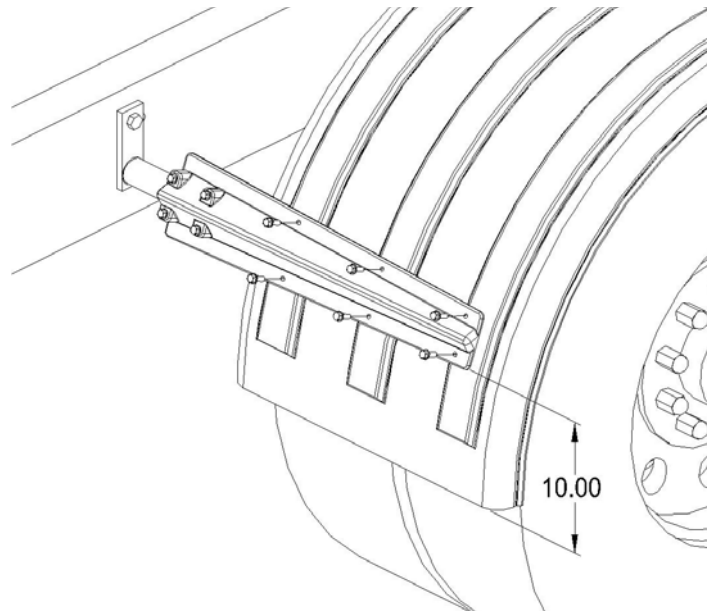

Figure 5
C. Make sure the brackets are within 10" of the bottom of the fender to avoid wind blowing the fender back into the tire. If the front fender bracket is mounted higher than 10", run a piece of steel strapping on the inside of the fender to give it extra strength (see Figure 5 next pg).